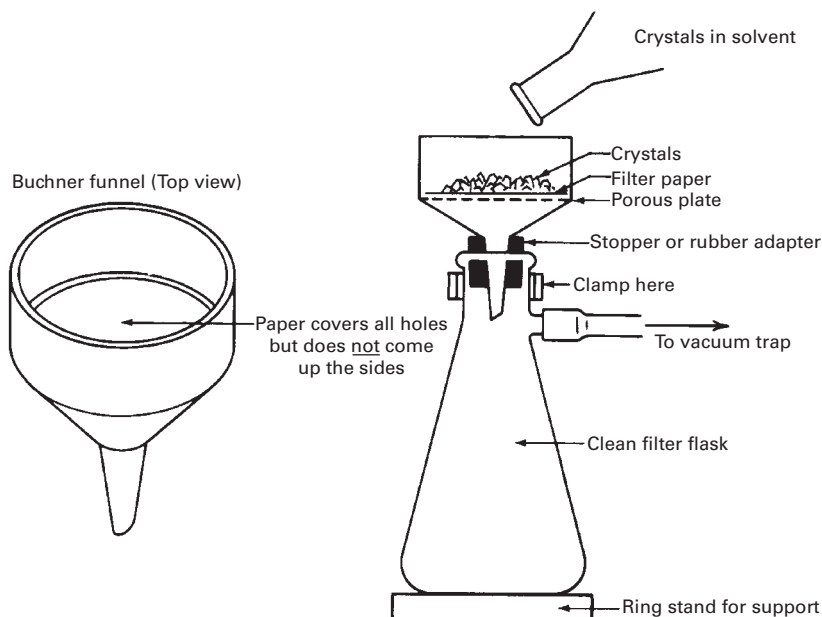

FIGURE 13.5 The Buchner funnel at home and at work.
The **Buchner funnel** (Fig. 13.5) is used primarily for separating crystals of product from the liquid above them. If you have been *boiling your recrystallization solvents dry*, you should be *horsewhipped* and forced to reread these sections on recrystallization!
1. Get a piece of filter paper large enough to cover all of the holes in the bottom plate, and yet *not* curl up the sides of the funnel. It is placed *flat* on the plate (Fig. 13.5).
9. When the crystals are dry *and you have a water trap*, just turn off the water aspirator. Water won't back up into your flask. (If you've been foolhardy and have filtered without a water trap, just remove the rubber tube connected to the filter flask side arm [Fig. 13.5].)